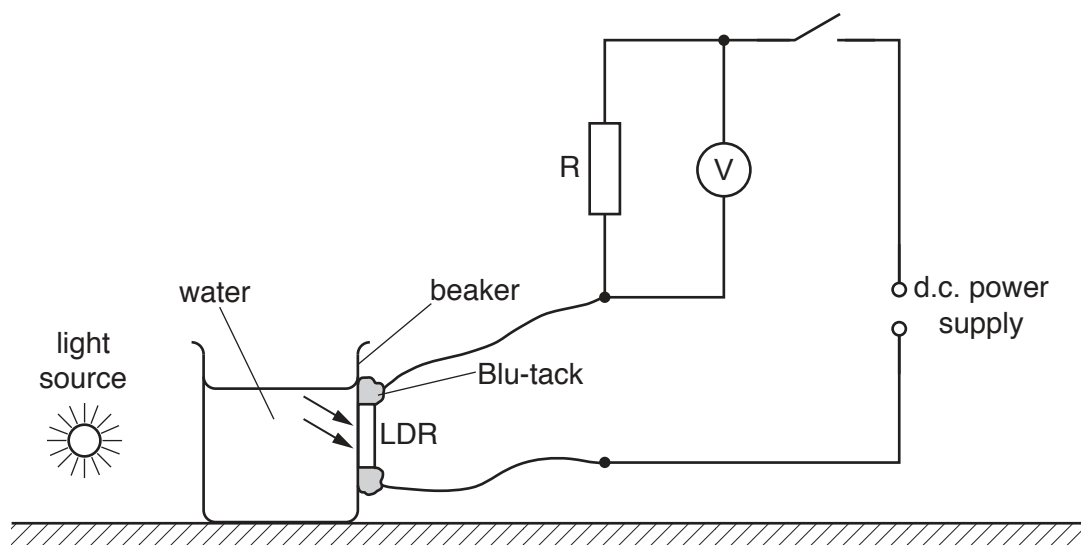

Fig. 2.1
- The Supervisor should set up the apparatus as shown in Fig. 2.1.
- ensure that the apparatus has been restored to its original state as in Fig. 2.1. If cells are used in the circuit, they should be checked and replaced, if necessary.